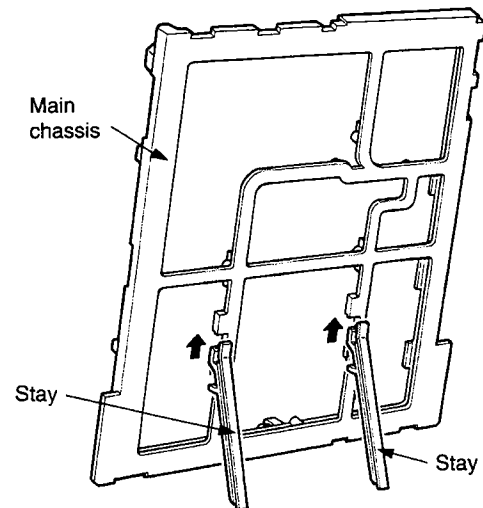

Fig. 3-2
2. Insert the stays into the mounting positions as shown in the Fig. 3-2.